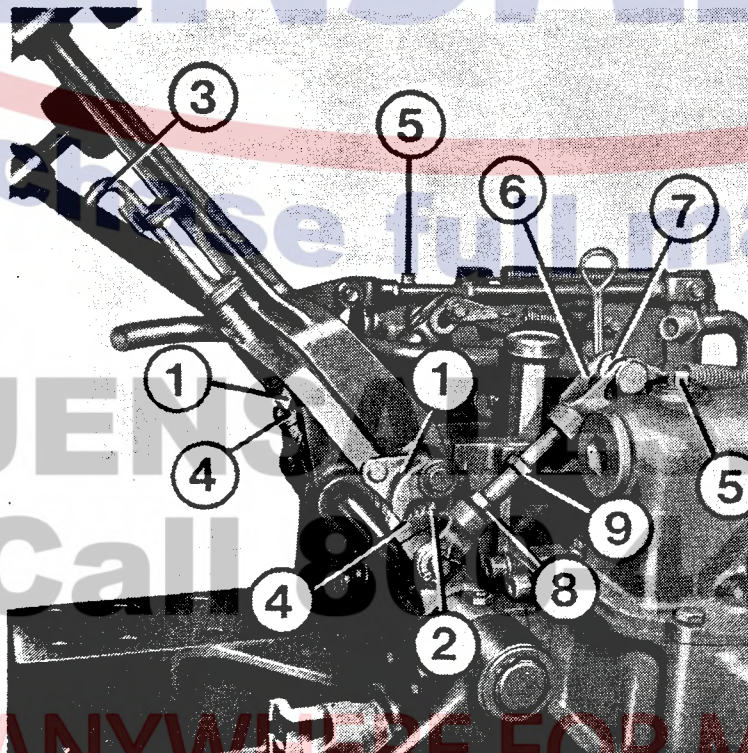

Fig. 78
- Remove the footboards and check that the parking brake pedal ratchet (fig. 78 item 1) has not reached the last tooth (fig. 78 item 2) (nearest the operator); adjust, if necessary, as follows:
- Raise the lever which disengages the parking brake ratchet (fig. 78 item 3).
- Set the ratchet in correspondance with the first tooth (fig. 78 item 4).
- Turn the adjusting screws (fig. 78 item 5) clockwise until you meet with resistance, then turn them anti-clockwise 5 or 6 clicks (each click corresponds to a half turn of the adjusting screw).
- Press the parking brake pedal by hand and check the clearance between the pedal forks (fig. 78 item 6) and the brake levers (fig. 78 item 7), which should be at least 0.02 in. (0,5 mm).
- Adjust the clearance by slackening the linkage nut (fig. 78 item 8) and turn the linkage (fig. 78 item 9) clockwise until the correct clearance has been obtained, then tighten the linkage nut.